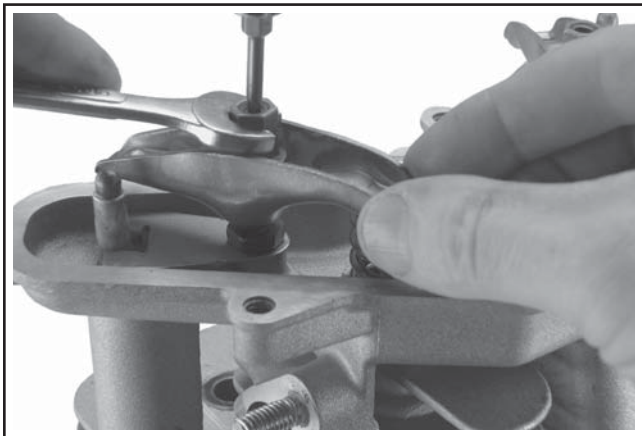

**Figure 8-28. Valve Cover and Gasket Details.**
2. Remove the valve cover and gasket from the cylinder head. See Figure 8-28.